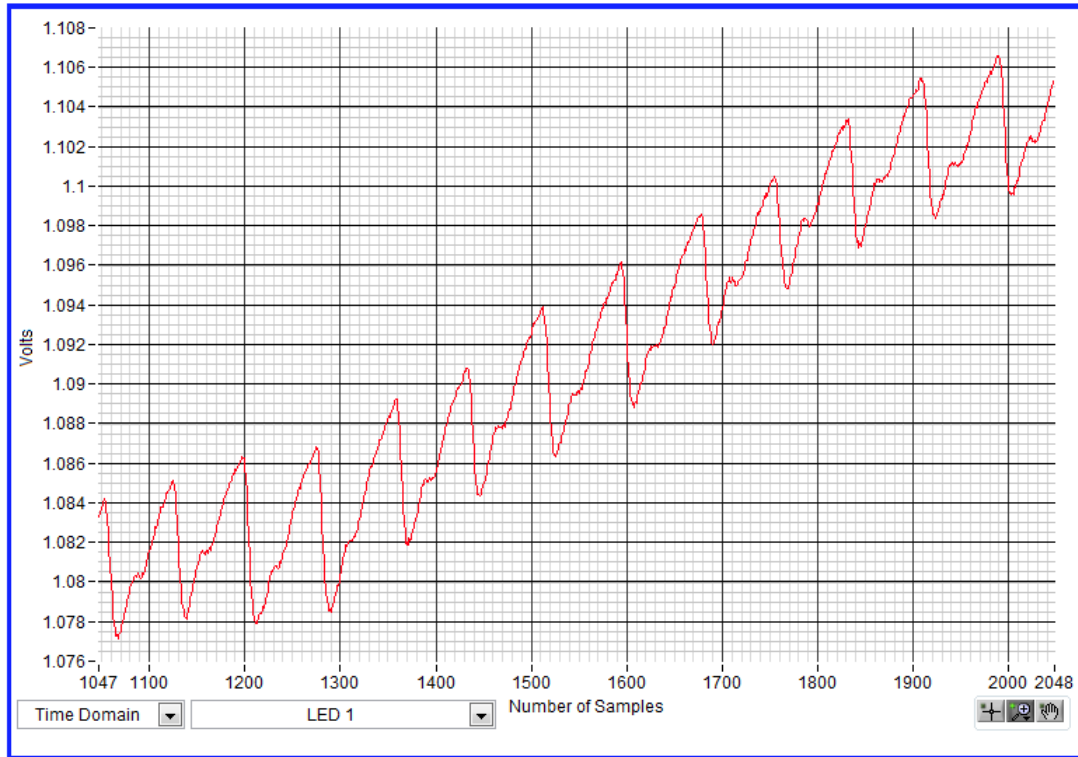

Figure 8. Sample Waveform of Green LED Captured on the Wrist With NJRC NJL5513R
- (c) Click the **Capture** button to begin capturing data. Figure 8 shows a sample waveform: